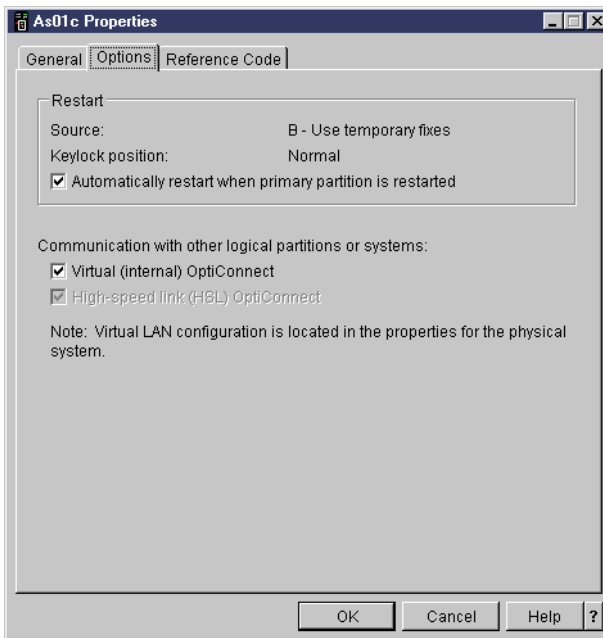
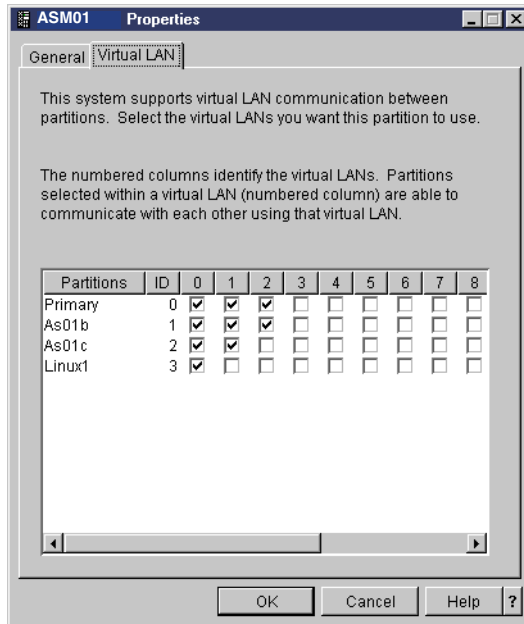

Figure 10-10 Options tab of the partition properties is used to change Virtual OptiConnect
Figure 10-11 Virtual LAN tab communication configuration choices
4. Change the tab setting to show the options. You can enable or disable the Virtual OptiConnect between systems on this display as shown in Figure 10-10.
5. You may have noticed, in Figure 10-10, that to change the virtual LAN connections, you must go to the physical system properties. Figure 10-11 shows the properties of the physical system, with the virtual LAN tab highlighted. Use this display to enable any virtual LAN connections that you may require.